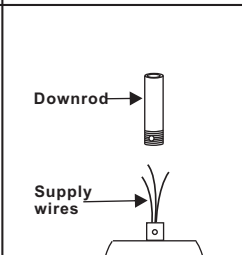

Figure 8
**Step 4.** Carefully feed fan wires up through the downrod. (Fig. 8) Thread the rod into the coupling. Next line up holes and replace lock pin and hitch pin. Tighten set screws.